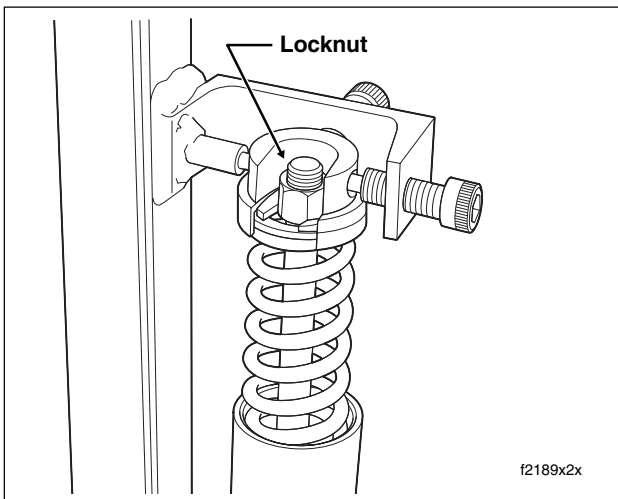

Figure 2-74. Compress Fork Spring
10. Using deepwell socket to avoid unnecessary spring compression, remove locknut from end of damper rod. See Figure 2-74.